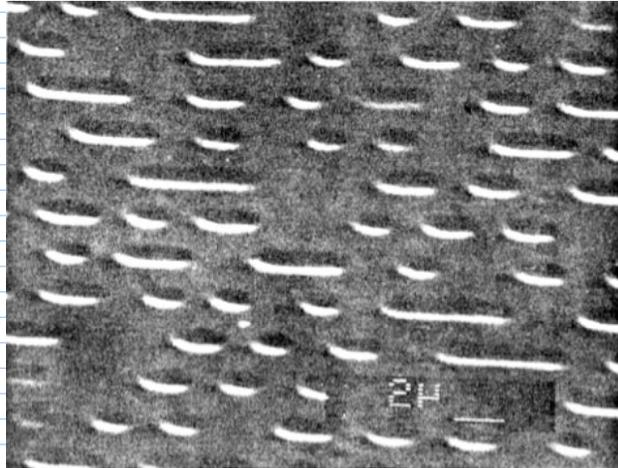

Figure 3
- b. The bottom surface of a CD is a highly reflective area containing a spiral of "pits." A high-powered electron microscope image of the CD surface is shown in figure 3 below. The scale line in the lower right is 2 microns long.